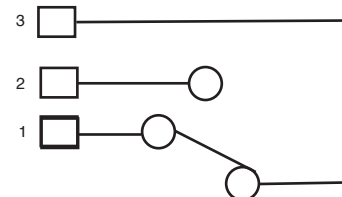

FIGURE 6-47
2. Connections can be made either normally open or normally closed as shown in Fig 6-47. The end-of-line resistor must be installed to suit the control unit, typically 4K7.